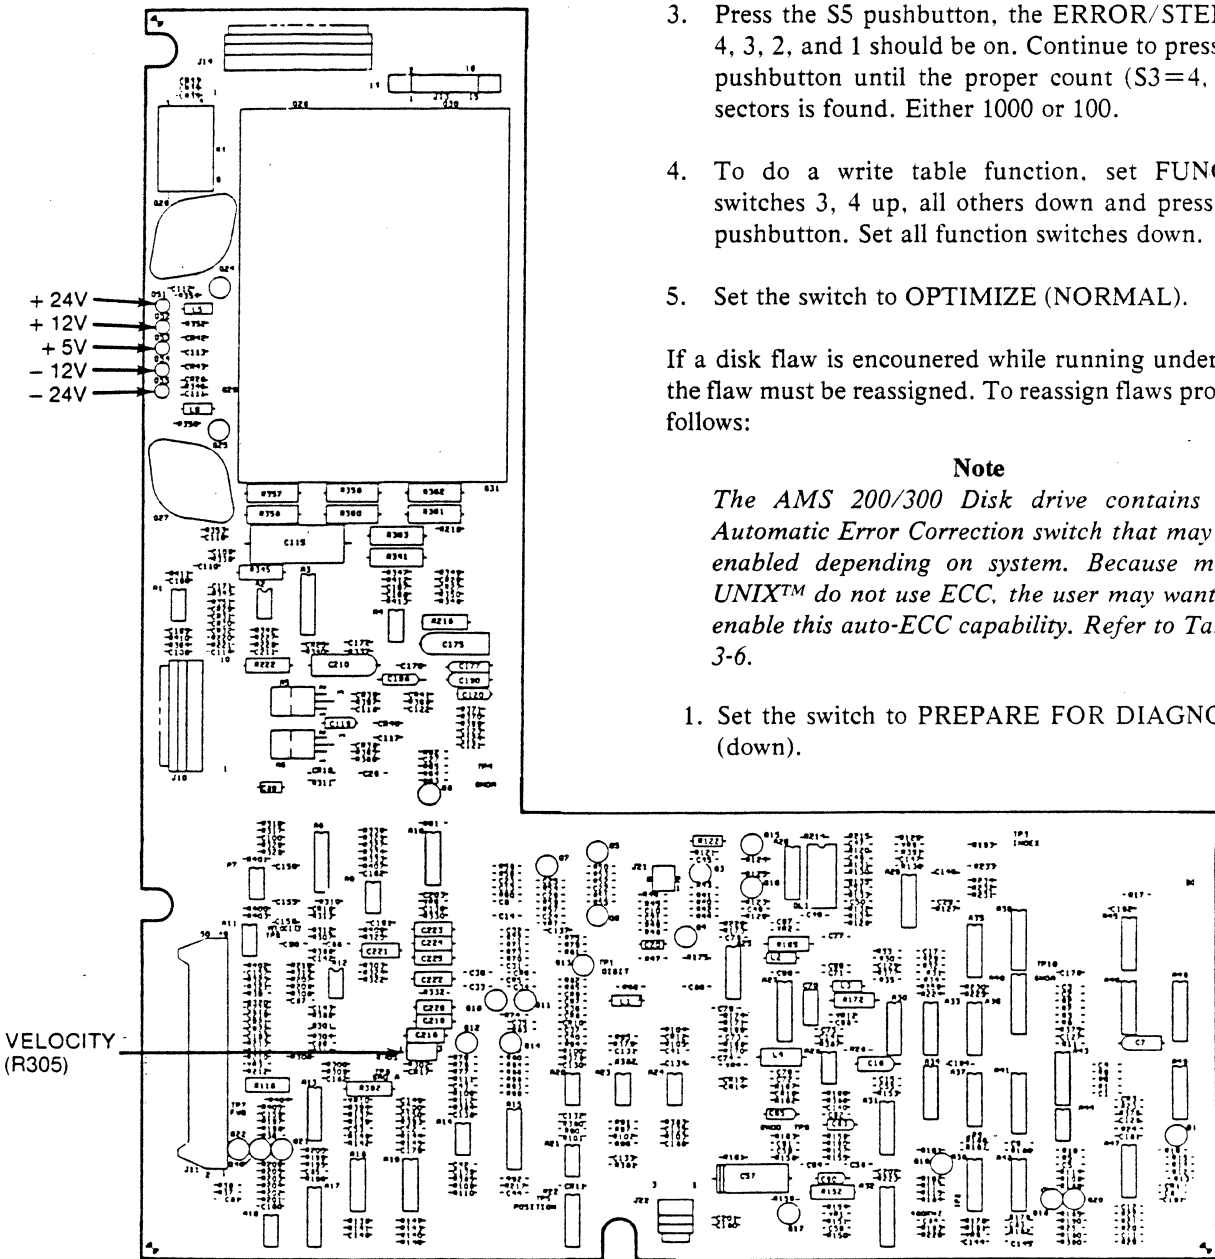

Figure 4-2. DC Power LED's
6. Turn power on to the unit and verify that the DC power LED's on the Servo Control Printed Wire Board (PWB) are illuminated. See Figure 4-2.